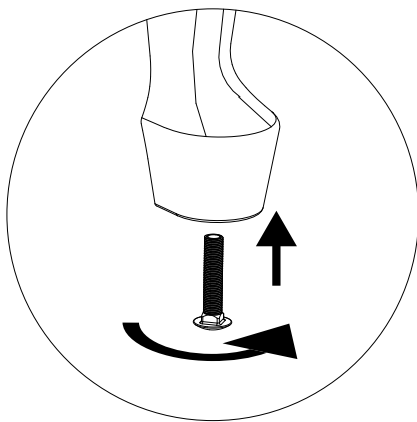

Figure 19.2
7. Use leveling bolts on legs to stabilize and level appliance (Figure 19.2 on page 19).